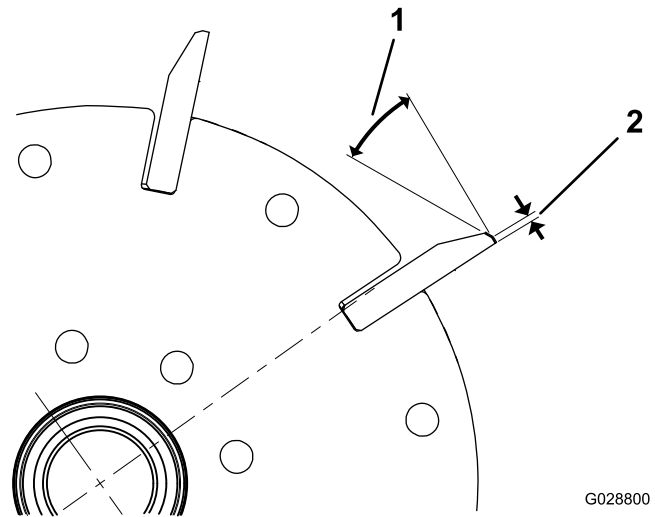
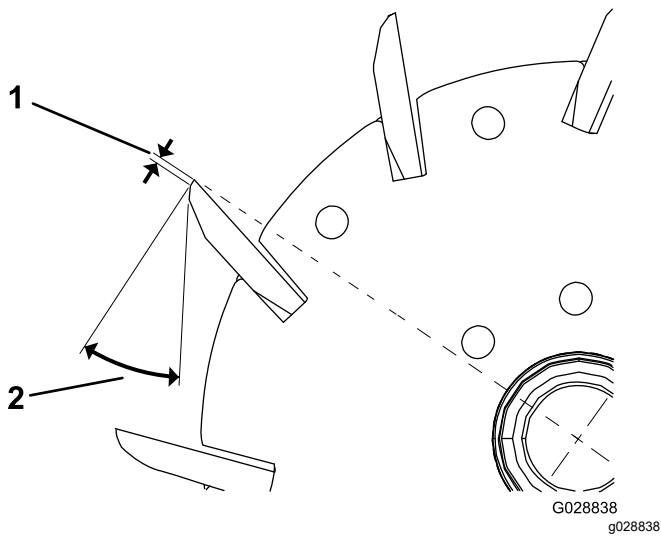

Figure 22
Figure 23
1. Apply a 30° relief grind on all reel blades until the land width is 1.3 mm (0.050 inch) wide (Figure 22 and Figure 23).